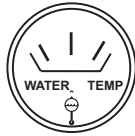

Figure 48. Coolant Temperature Gauge
- The coolant temperature gauge (Figure 48) will indicate the coolant temperature. Under normal operating conditions the coolant temperature should be between 165 and 215 degrees Fahrenheit (Green Zone).